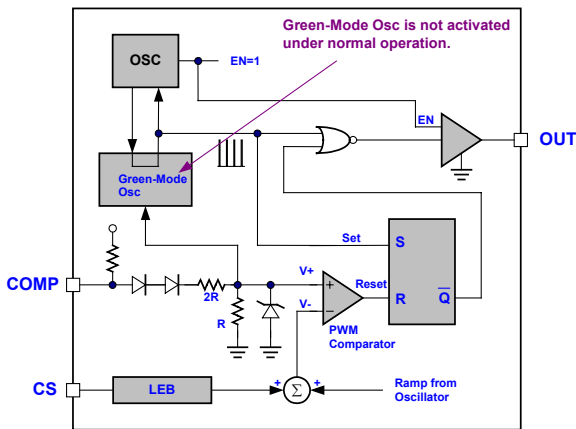

Fig. 10
What LD7550 used to implement the power-saving operation is Leadtrend Technology's own IP②. In such approach, as shown in the block diagram, 2 oscillators are implemented in LD7550. The first oscillator is to take care the normal switching frequency, which can be set by the RT pin through an external resistor. Under this operation mode, as shown in Fig. 10, the 2nd oscillation (green-mode oscillator) is not activated. Therefore, the rising-time and the falling-time of the internal ramp will be constant to achieve good stability over all temperature range. Under the normal operation, this oscillator is dominated the switching frequency.